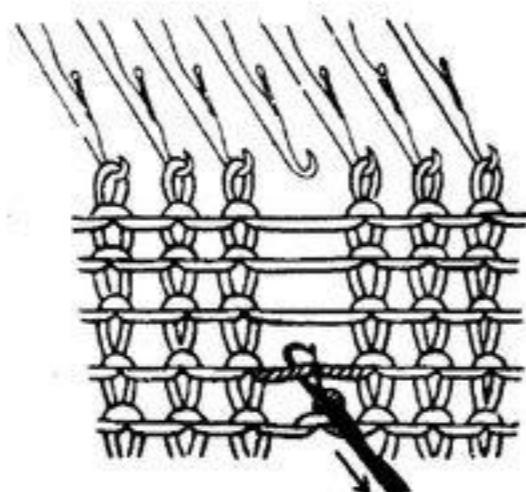

Fig. 34-2
2. Pull the needle back so that the loop closes the latch over the strand caught in the needle hook. (Fig. 34-2)